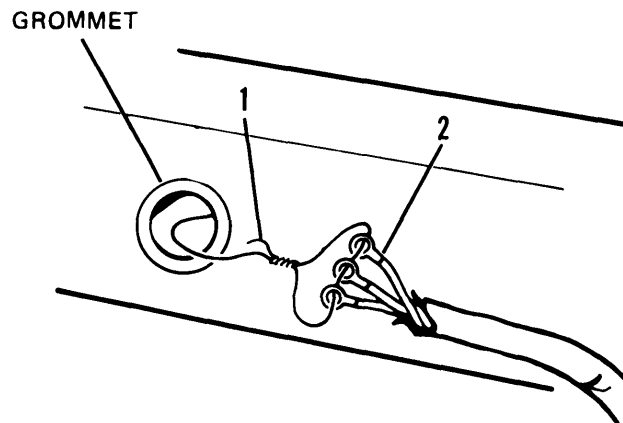
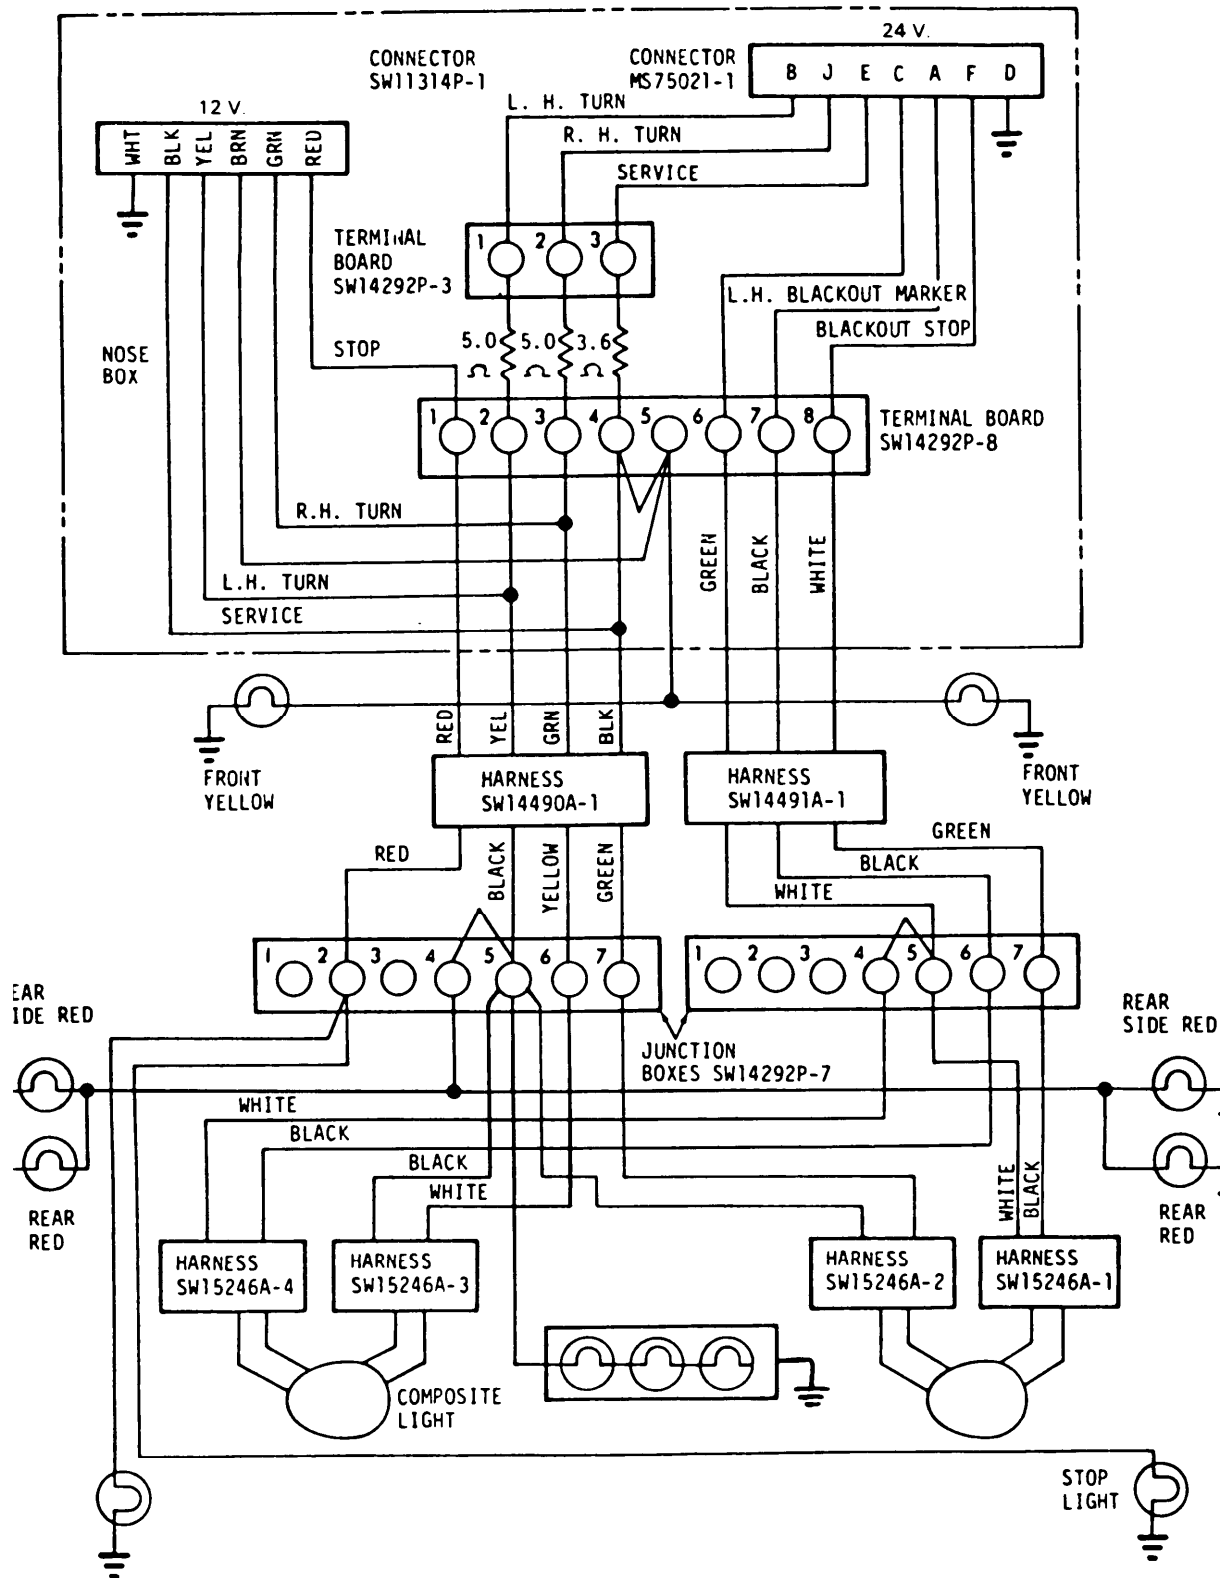

Figure 4-17. Removing Wiring Harness
Figure 4-18. M871 Electrical Schematic
- (1) Remove nose box cover assembly (para. 4-17).
- (2) Remove the two junction box covers (para. 4-21).
- (3) Disconnect four terminals in 12 volt junction box on left rear of the vehicle.
- (4) Disconnect three terminals in 24 volt junction box on right rear of vehicle.
- (5) Tie a piece of .020 lockwire (1, fig. 4-17) that is at least 400 inches (34 feet) long to the terminals (2) extended out of the rear of the semitrailer.
- (6) Pull the cable out from the front of the semitrailer. Do not pull the lockwire out. It is needed to reinstall the cable.
- (1) Tie the end of the lockwire (1, fig. 4-17) that was fed through the frame during removal to the terminals (2) of the cable.
- (2) Feed the cable into the frame hole while pulling the lockwire out the other,
- (3) Connect wiring harness to appropriate junction box terminals as shown in schematic diagram (fig. 4-18).
- (4) Install the two junction box covers (para. 4-21).
- (5) Install nose box cover (para. 4-17).
- (6) Connect electrical power and test for proper operation.